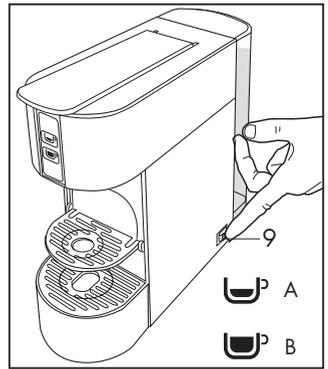

Fig. 4
### (Fig.4)
- The buttons (A) and (B) start to blink; when they appear with a fixed light the machine is ready for use (Fig.4)